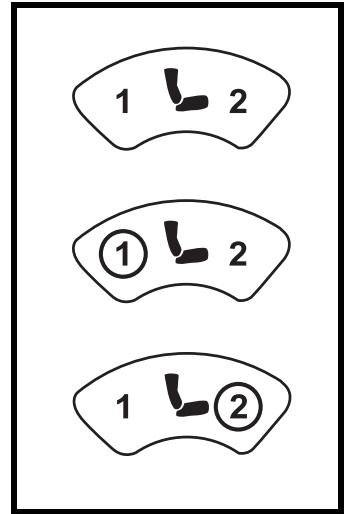

Figure 8. Actuator Indicators (None, Actuator 1, and Actuator 2 Shown)
3. Push the joystick to the right or press the actuator select key again to cycle through the available actuators. The actuator indicators will display which actuator is activated. See figure 8.